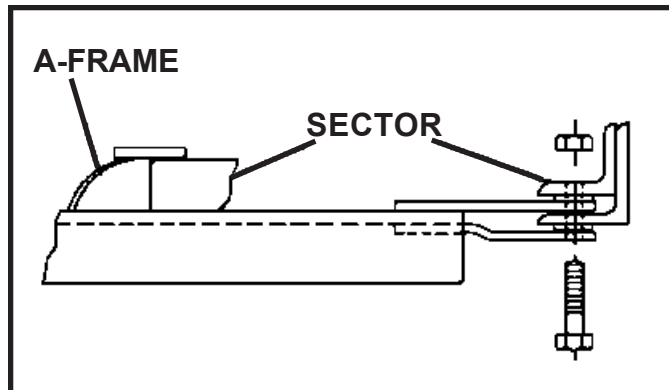

Figure 2
- a. Liberally coat Pivot Pins (18) with chassis lubricant.
- b. Attach Sector (33) to Moldboard (1) with Pivot Pins (18) and insert Hair Pin Cotter. Grease Pivot Pin using grease fitting.
- c. Attach Eye Bolts (21) to Moldboard (1) and trip Springs (34) to Sector (33), making certain locknuts (31) are positioned as shown in Figure 2.
- e. Attach A-Frame to Sector (33) as shown in Figure 2. **IMPORTANT:** Install King Bolt (25) from bottom so that locknut is on top.